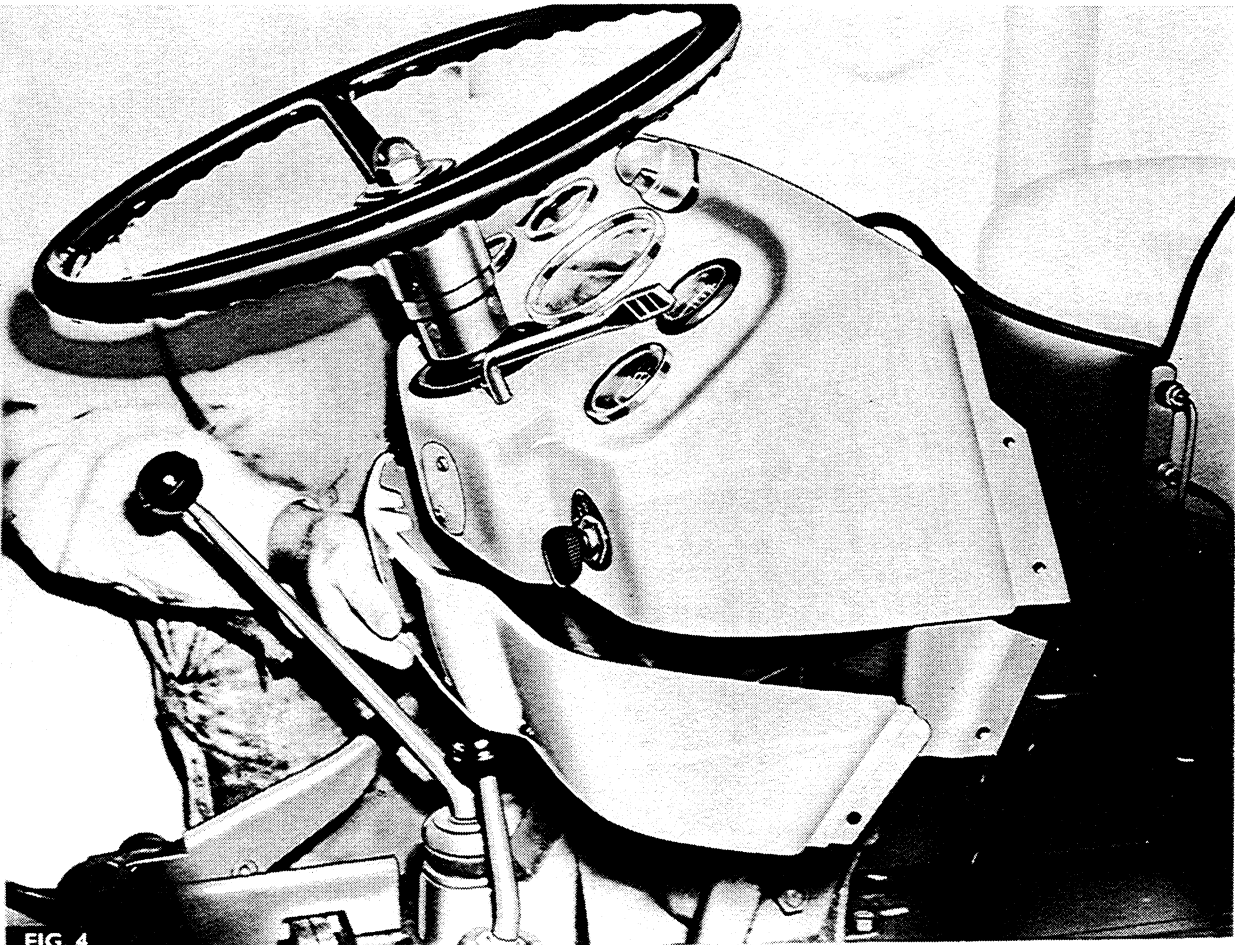

FIG. 4
3. Fig. 4. Remove the two bolts and washers securing the lower instrument panel and release the panel from the instrument panel as shown.
2. Fig. 4. Refit the lower panel and secure with the two bolts and washers.